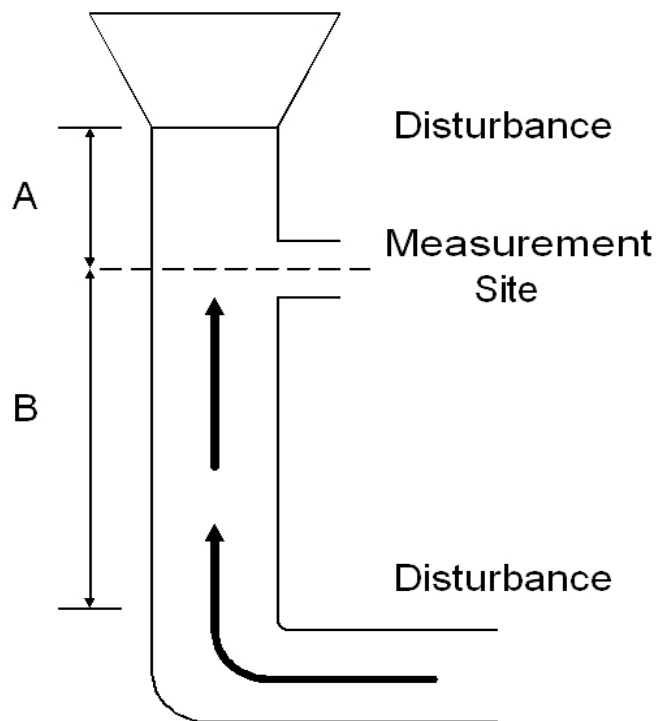

Figure 1. Stack Test Port Location Criteria
Many sources do not have stack testing ports— openings in the stack or ductwork to allow the test equipment to measure in the air stream—in the proper locations. EPA test methods require that the ports be located to minimize skewed results caused by turbulence in the air flow around disturbances. Disturbance can be caused by elbows or other changes in direction of the airflow, fans, or the actual exhaust point (see Figure 1. Stack Test Port Location Criteria).
- Measurement A in Figure 1 should be a distance at least equal to one-half stack diameter and ideally a distance of two stack diameters.